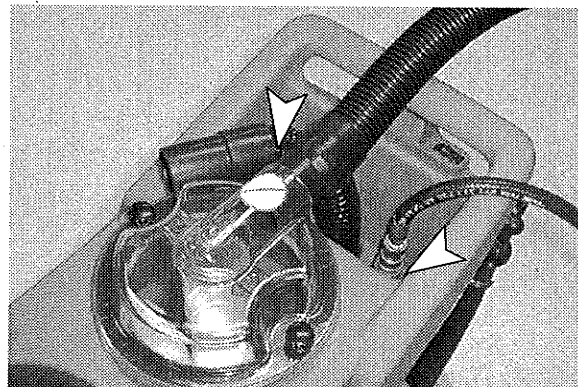

FIG. 5
1. Disconnect vacuum hose from recovery dome and connect accessory vacuum hose (Figure 5).
2. Connect accessory solution hose to quick coupler, located in front of handle (Figure 5).